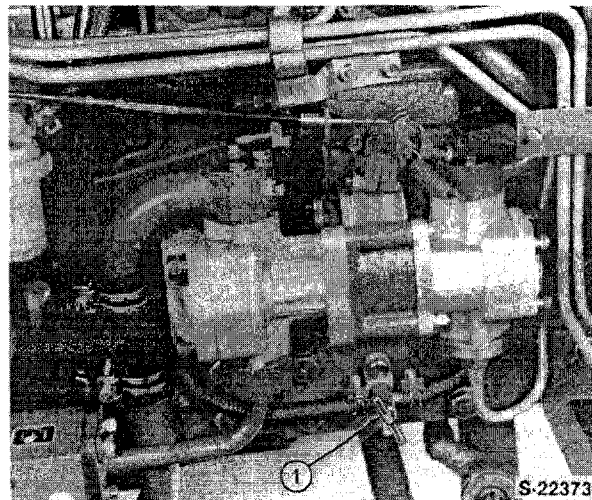

Figure 1
1. Drain the radiator assembly, Figure 1.